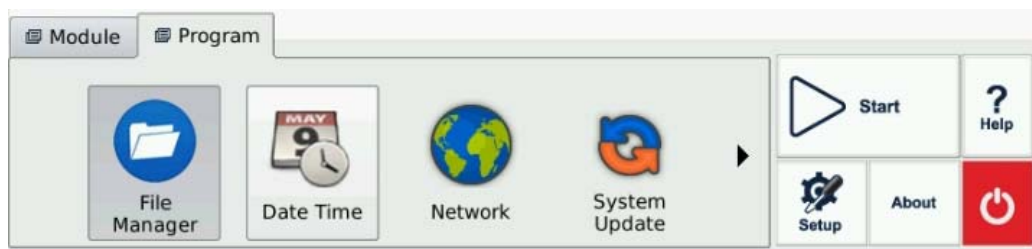

Fig 13.1 File explorer
A. In OTDR main interface, click {**Program**} label and click [**File Explorer**] icon as shown in Fig 13.1: